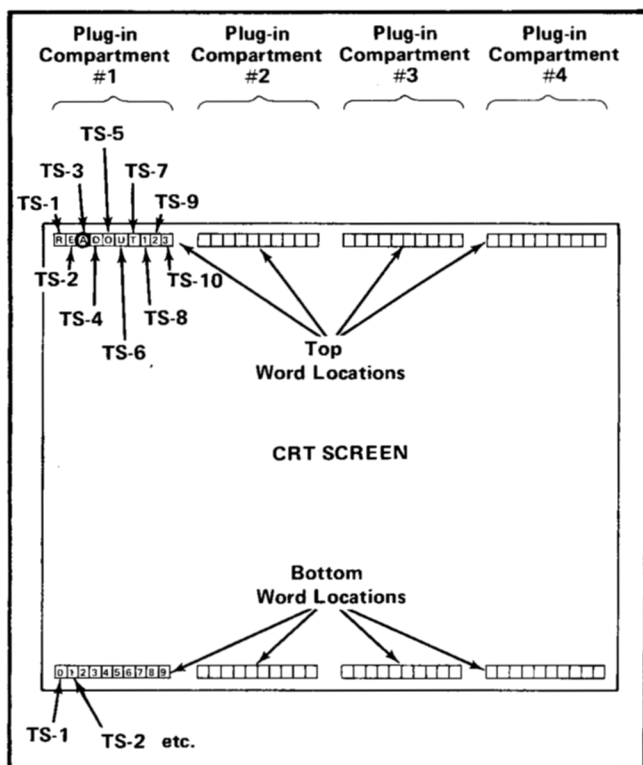

Fig. 5. Readout Word Locations and Timeslot Locations.
Each of the oscilloscopes four plug-in compartments are allotted two word locations located at the top and bottom of the CRT screen (see Fig. 5). Each word location can be encoded to write up to ten characters. For each of the ten spaces available in a word location there is a corresponding timeslot (TS) pulse. The timeslot pulses interrogate the readout encoding resistors in the plug-ins. The resulting information is returned to the oscilloscope readout system as various row and column currents. These row and column currents select the characters or operations from the matrix shown in Fig. 7. For example: to obtain the letter "A" there must be 0.4 mA of row current and 0.3 mA of column current.
The timeslot pulses are always -15 volts in amplitude. Therefore the current flowing from the timeslot lines through the plug-in encoding resistors into the row and column return lines is a direct result of the value of the encoding resistors as given by Ohm's law. For example: In order to place the letter "A" at timeslot location 3 of the top word location (circled in Fig. 5), a 37.4 kilohm resistor (-15 volts/ 0.4 mA) must be placed between TS-3 and the row return line B37 and a 50 kilohm resistor (-15 volts/ 0.3 mA) between TS-3 and column return line A37. Refer to Table 2 for interface pin connections.